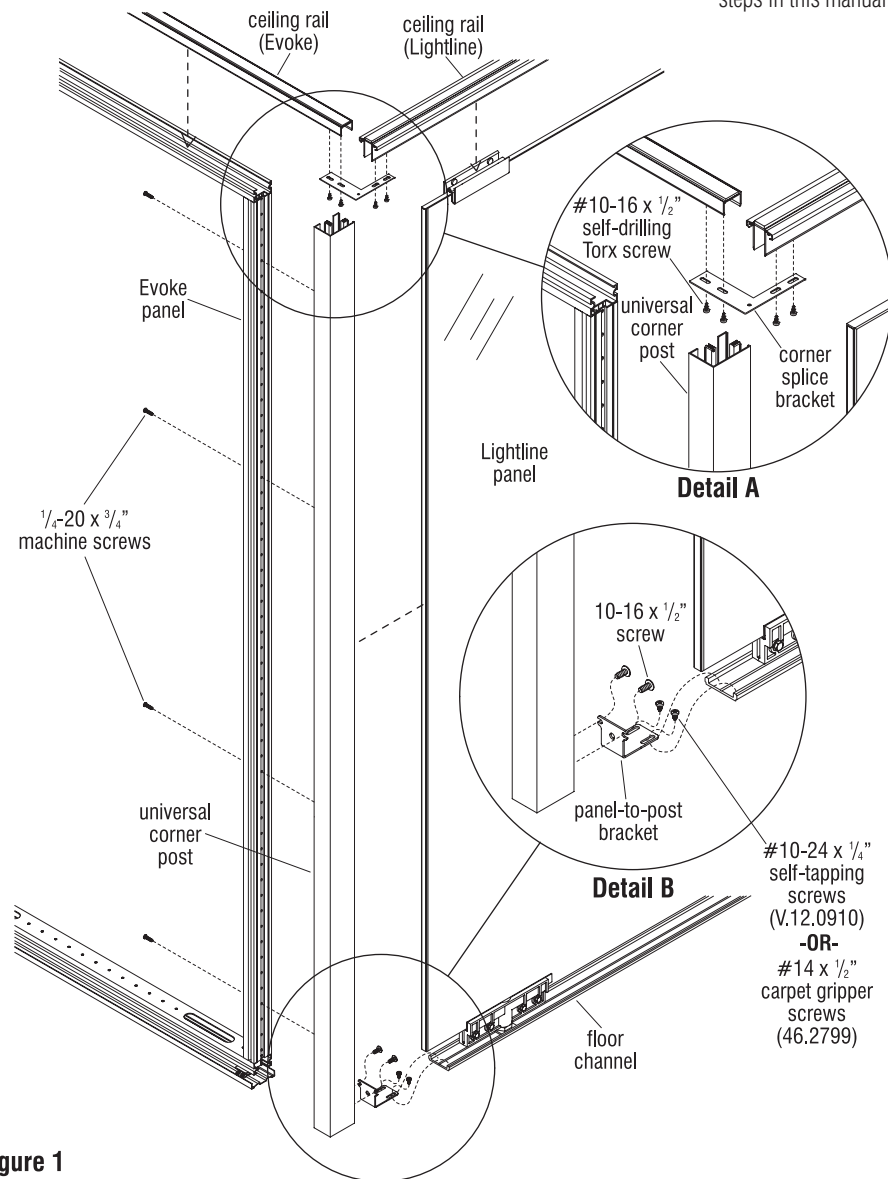

Figure 1
sink into the carpet (if present), then cut the bottom of the post to that dimension. Stand the universal post up under the ceiling rail and confirm that the top of the post lines up with the top of the ceiling trim (Figure 1, page 38).
6. Position the universal corner post to the Evoke panel and secure using four 1/4"-20 x 3/4" machine screws evenly spaced (Figure 1).
7. Prepare Lightline panel with flexible seal. See Lightline Assembly Instructions "Flexible Glazing Seal at Door Frame and Posts" (Figures 1 through 4, page 28). Once seal is installed, position a properly aligned and adjusted Lightline panel against the corner post (Figure 1).
floor channel and secure with two screws. If securing over hard floor, use two #10-24 x 1/4" hard floor screws (V.12.0910) (shown). If installing over carpet, use two #14 x 1/2" carpet gripper screws (46.2799). Then secure the panel-to-post bracket to the corner post with two 10-16 x 1/2" screws into the post (Figure 1 & Detail B).
2. Position the corner splice bracket between the Lightline ceiling rails. Then secure the bracket to both ceiling rails using four #10-16 x 1/2" self-drilling screws. (Figure 1 & Detail A).